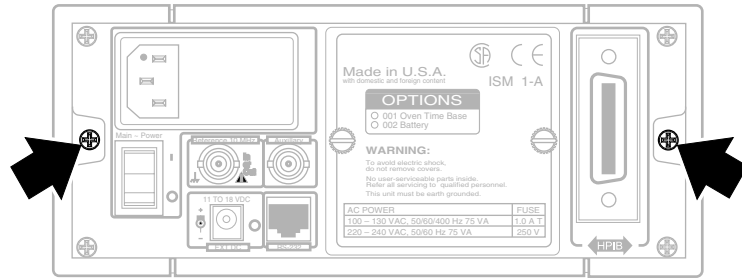

Figure 3-4. Rear Bezel Mounting Screws
- 2 Use a #2 Phillips screwdriver to remove the two 6-32 pan-head machine screws that attach the rear bezel to the rear panel of the Counter (see Figure 3-4).